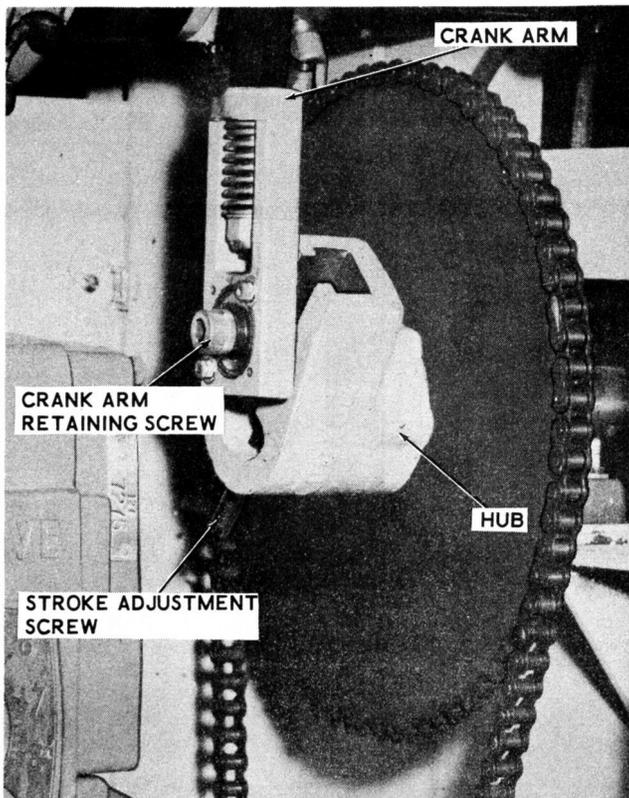

Figure 3-38. Adjusting Crank Arm for Pouch Width
- a. Loosen the socket head cap screw (Figure 3-38) securing the adjustable crank arm.
- b. Loosen lock nut on the adjustment screw (Figure 3-38) in the hub.